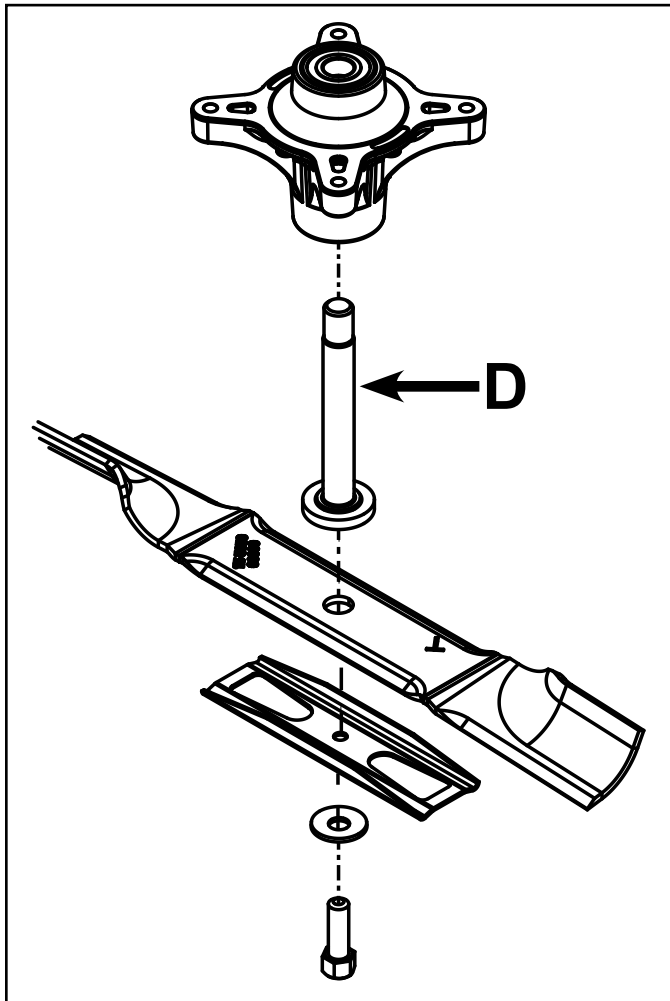

Fig. 109
3. Remove spindle shaft (D) from spindle assembly. Inspect for excessive wear and replace if necessary (Fig. 109).
4. Use an appropriate punch or bearing extractor to remove the (2) bearings (A) from the spindle housing.
5. Inspect bearing spacer(s) (B) for wear and replace if necessary.
6. Clean and inspect spindle housing (C) bearing bores for excessive wear and replace if necessary.